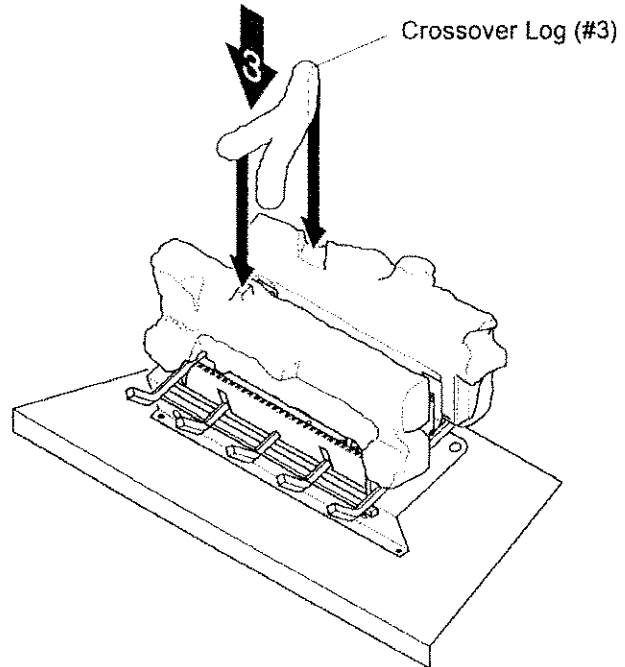

Figure 24 - Installing Crossover Log
3. Place crossover log (#3) into place (see Figure 24). Be sure to place back of crossover log into notch on left side of rear log. The indentation under front left fork of crossover log must rest on rectangular knob of front log.